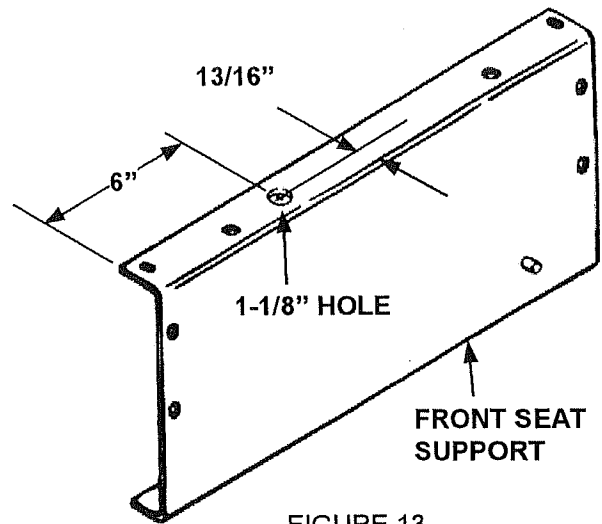

FIGURE 13
7. (See figure 13) Add a 1-1/8" diameter hole to front seat support panel. Remove burrs and paint bare metal.